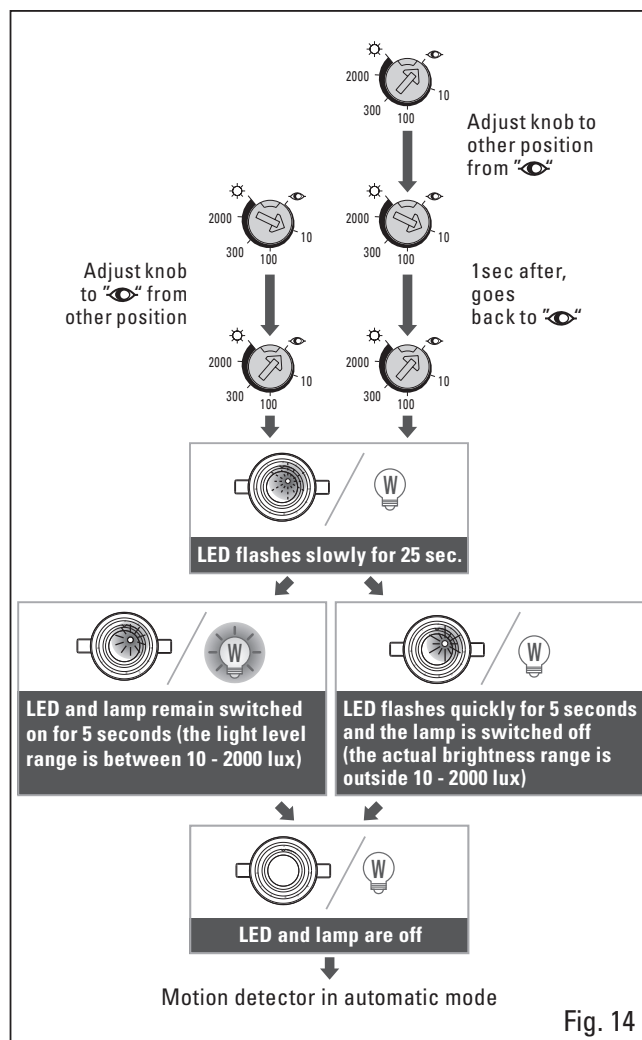

Fig. 14
1. Set the control to ☞ when the ambient brightness corresponds to the desired value, see Fig. 14.
2. If the controller is already in the ☞ position, it must be moved to another position for more than 1 s before it can be set to the ☞ position again, see Fig. 14.
3. The load is then switched off. The LED starts to flash slowly to indicate that the teach-in function is activated. The teach-in function is completed within 25 s. The LED and the load then remain switched on for 5 s or the LED flashes quickly for 5 s and the load is switched off to confirm successful teach-in, see Fig. 14.